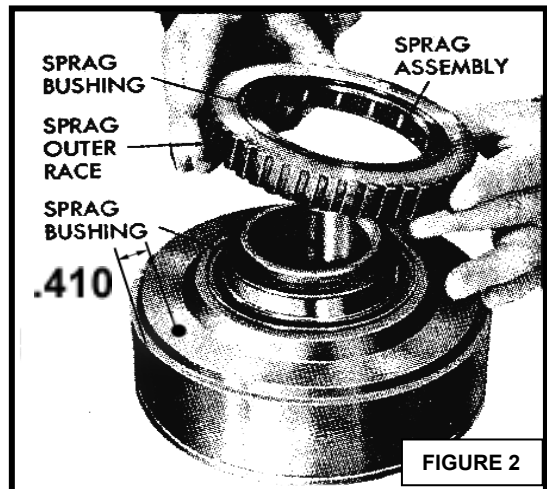

FIGURE 2
2. If using a stock drum, it is necessary to drill a constant bleed orifice in the drum, using a 1/16" drill. A drill press should be used for this operation. At any place on the outer circumference of the drum, measure in from the edge .410" and place a center punch mark. (Figure 2) Drill through the drum, being careful not to let the drill score the machined surface for the outer lip seal, as it breaks through.